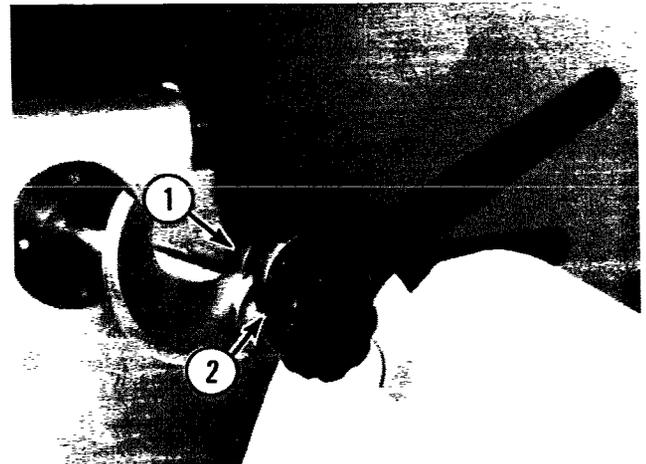

Fig. 2-6
- (2) Hold a flat wrench on the flats of the bushing (1, Fig. 2-6) and tighten the locking collar with a second wrench (2, Fig. 2-6).